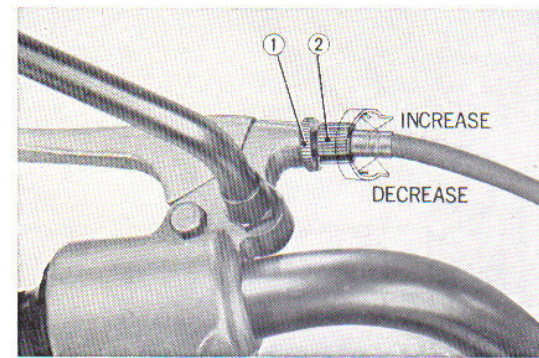

Fig. 6.24 Clutch cable adjustment
① Tensioner adjusting bolt
② Locking nut
(3) When the clutch lever is released gradually and the engine is accelerated, does the motorcycle start smoothly?
c. The clutch cable is also adjusted by loosening the nuts and the adjusters. (Fig. 6.24 and 25)